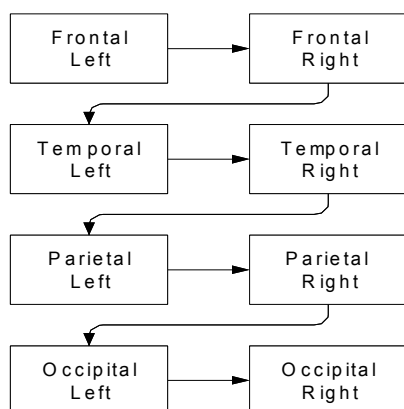
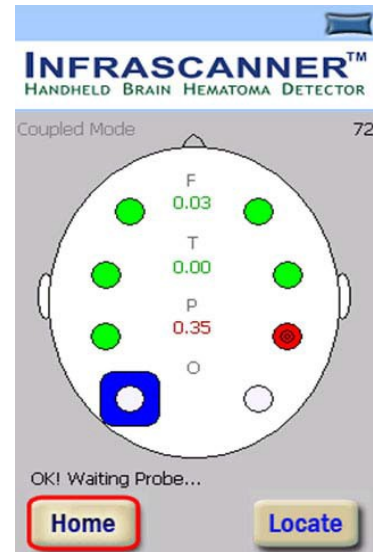
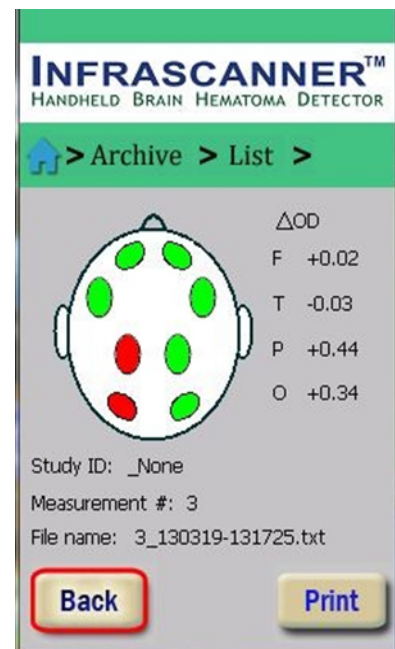

Figure 5-8: Scanning sequence
Figure 5-9: Measurement Screen with results
Figure 5-14: Archived Measurement
- The Infrascanner is ready to begin measuring. Take the Infrascanner and start the head scan, alternating between left and right positions according to the head scanning sequence in Figure 5-8. The blue square on the screen in Figure 5-9 indicates the current measurement location.
- After each successful measurement, the Infrascanner will beep and the blue square indicator will prompt the user to move to the next head location. An error will be indicated by an elongated beep. When an error occurs, look at the screen to read the error message. Then, clear the message by pressing the green button. Repeat the measurement in the same location (or in the contralateral side – depending on the error message). After successful measurement of two contralateral head locations the scanner will display the relative optical density difference between left and right sides of the pair, (see Figure 5-9).
- d. The next screen, the Archived Measurement screen, Figure 5-14, is the same as the Measurement Screen (Figure 5-9) shown at the end of a measurement.